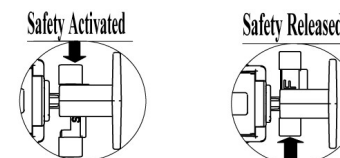
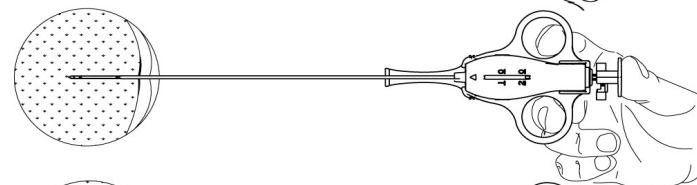

Fig. 2
Fig. 5
1. Safety can be set before charging the biopsy instrument by pushing safety button towards the direction illustrated in fig. 2.
4. While maintaining needle position, move plunger with thumb to first stop to advance stylet exposing specimen notch (10 or 20mm). Move needle back and forth a few mm to fill specimen notch as in fig. 5. Release the Safety by pushing the safety button towards the opposite direction illustrated in fig. 2.